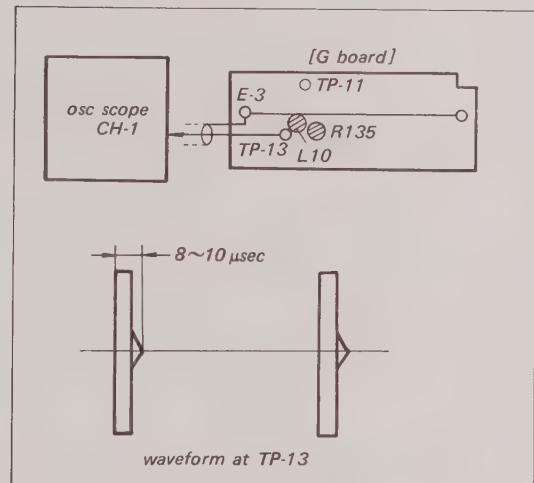

Fig. 8-25. Burst-gate tuning
3. Connect the scope probe to TP-13 on the G board (use internal sync, 10 μ sec/cm time base). See Fig. 8-25.
4. Adjust L10 for the waveform shown in Fig. 8-25.